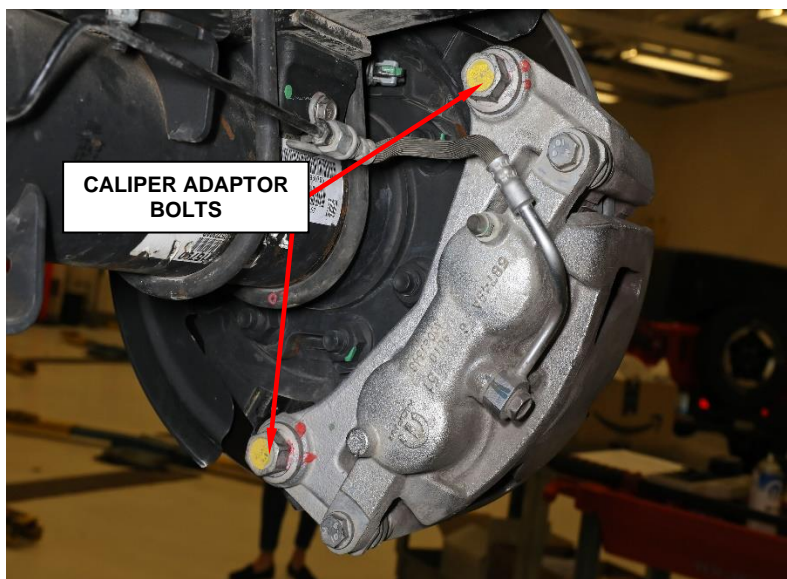

Figure 8 – Caliper Assembly
3. Remove the brake caliper adaptor bolts and brake caliper as an assembly and support the caliper (Figure 8).
- 35. Position the caliper adapter and caliper to the mounting bracket (Figure 8).
- 2012 - 2018 D2, DD** 300N·m (221ft. lbs.) (Figure 8).
- 2019 - 2021 D2, DD** 353N·m (260ft. lbs.) (Figure 8).
- 2012 - 2021 DP** 545N·m (402ft. lbs.) (Figure 8).